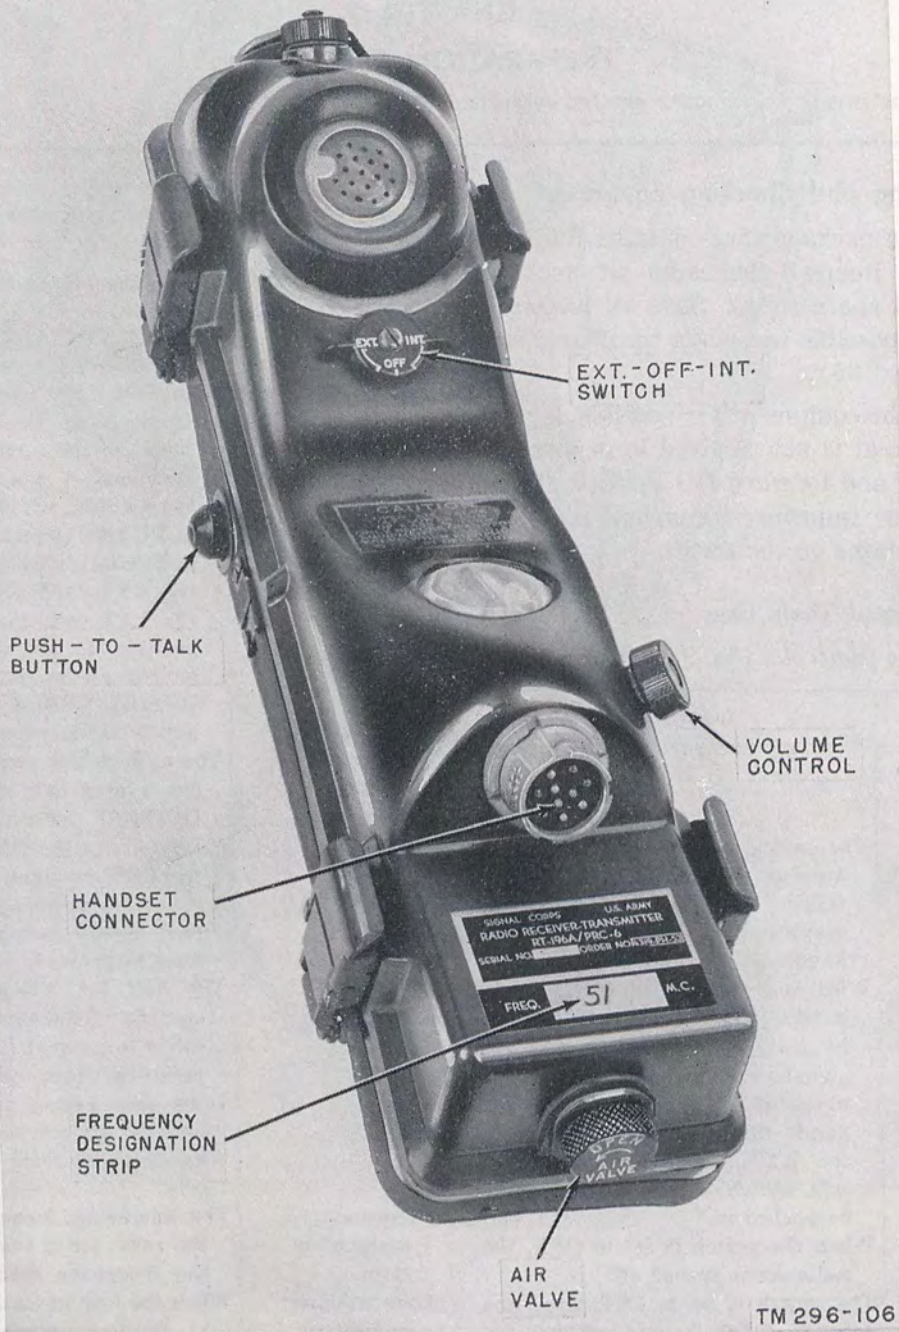

Figure 9. Radio Set AN/PRC-6, operating controls.
a. *Operating Controls.* (fig. 9).